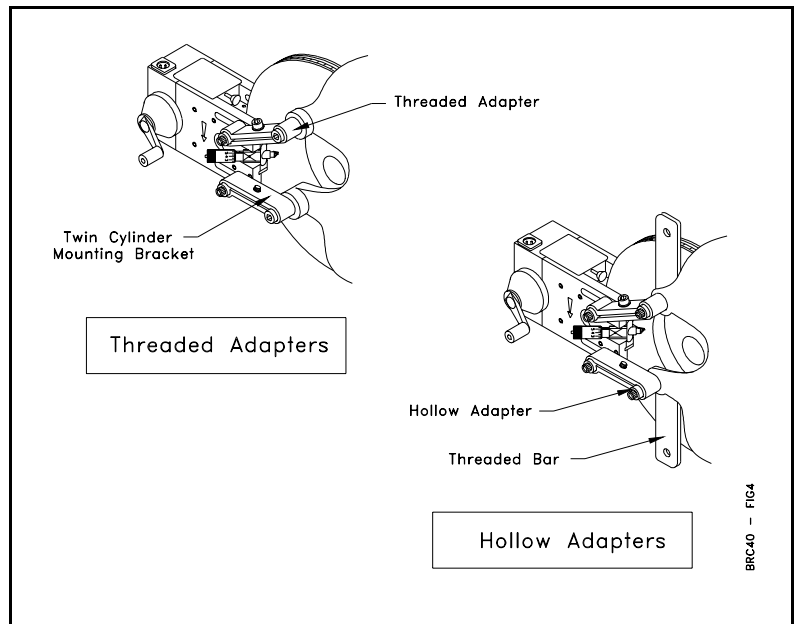

Figure 4 Mounting the Lathe
- Swing the Lathe upwards and slide the top Twin Cylinder Mounting Bracket onto the Lathe mounting bracket. See Figure 4.